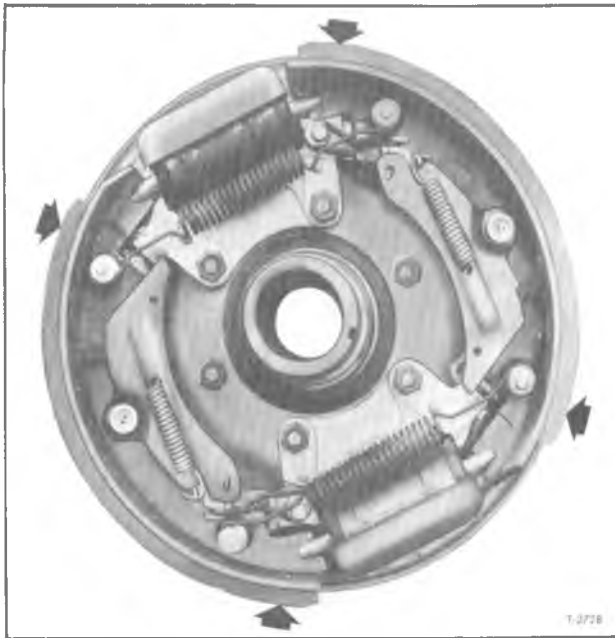

Figure 40—Measuring Points for Brake Shoe Centering
9. Check the brake shoes for being centered by measuring the distance from the lining surface to the edge of the flange plate at the points shown in figure 40. To center the shoes, tap the upper or lower end of the shoes with a plastic mallet until the distances at each end become equal.